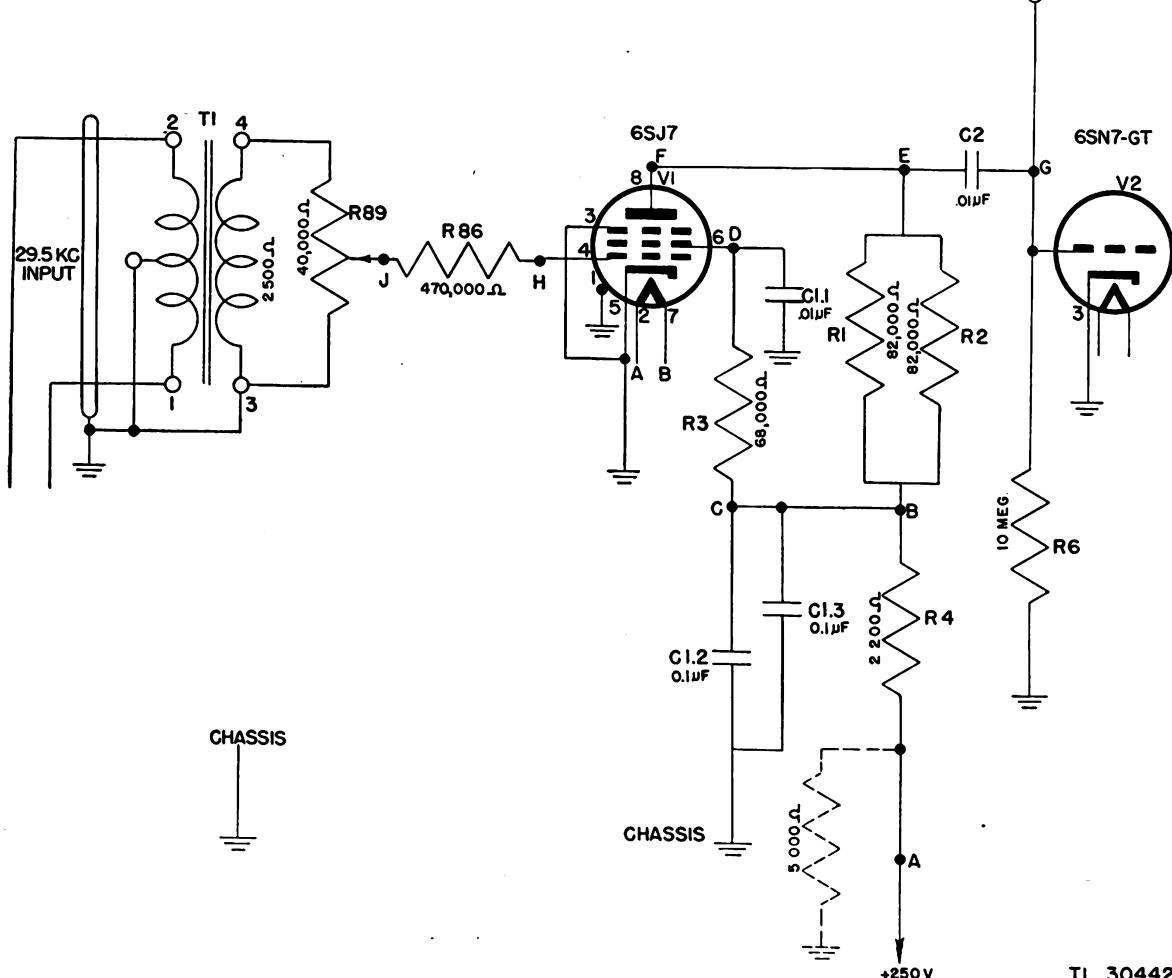

Figure 73. Resistance measurements functional schematic.
b. *Practical Examples.* Figure 73 shows the schematic diagram of amplifier stage V1 in an oscilloscope. Signal tracing proved that the input voltage to the secondary of transformer T1 was normal, but that the input voltage to the grid of V2 was abnormal. This meant that the trouble had been localized either to the amplifier stage V1 or to its associated circuits. The tubes V1 and V2 were first checked and found normal. The d-c input voltage (marked +250v) from the rectifier supply was also normal. If this voltage had been abnormal, the trouble probably would be within the rectifier circuits. Voltage measurements were also made between socket contacts 2 and 7 to check the heater voltage; the check showed that the proper voltage existed. These steps were preliminary to the resistance tests of the stage. Resistances between the socket contacts and the chassis were then made and compared with the normal values listed below. (All